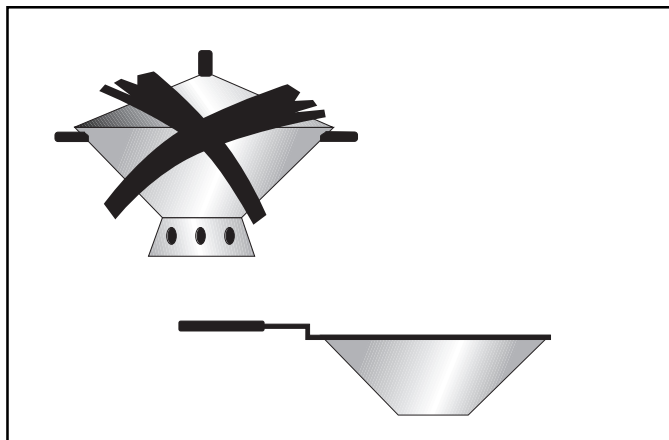

Figure 10
- Do not use a wok with a ring stand. Use flat bottom wok. (Figure 10)